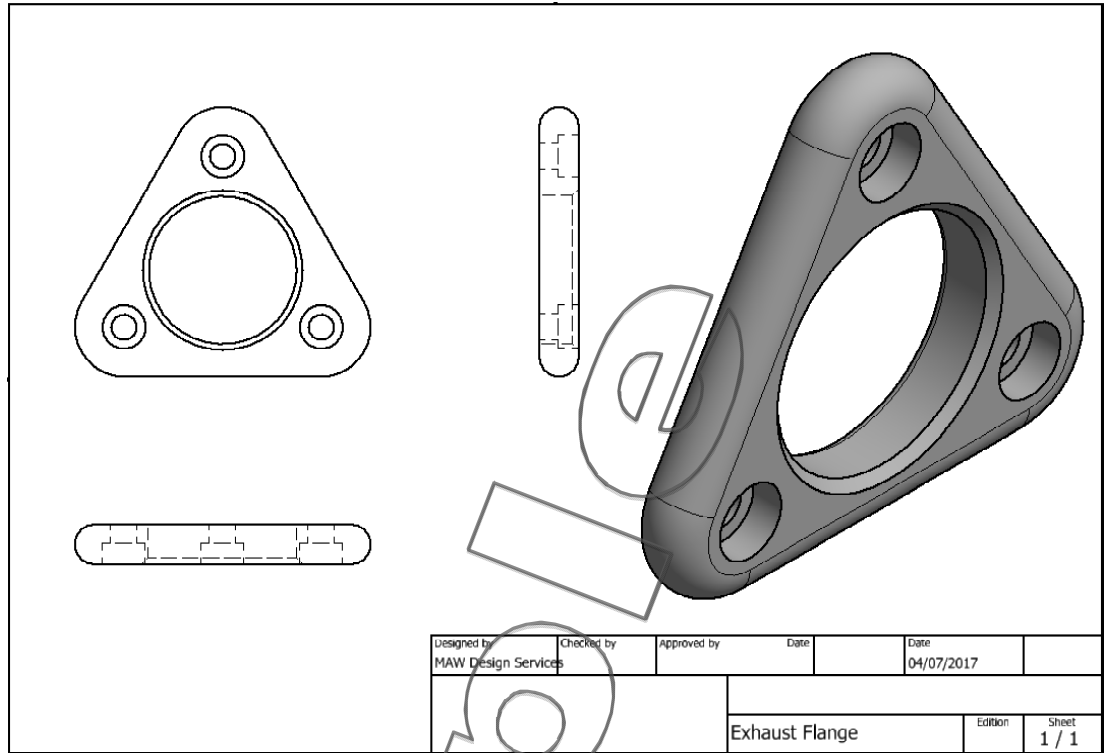

Figure 07 First Angle Projection and Isometric View
- 10 Select the **Isometric View** by picking its rectangular dotted frame and dragging it to re-position similar to that shown in Figure 07.